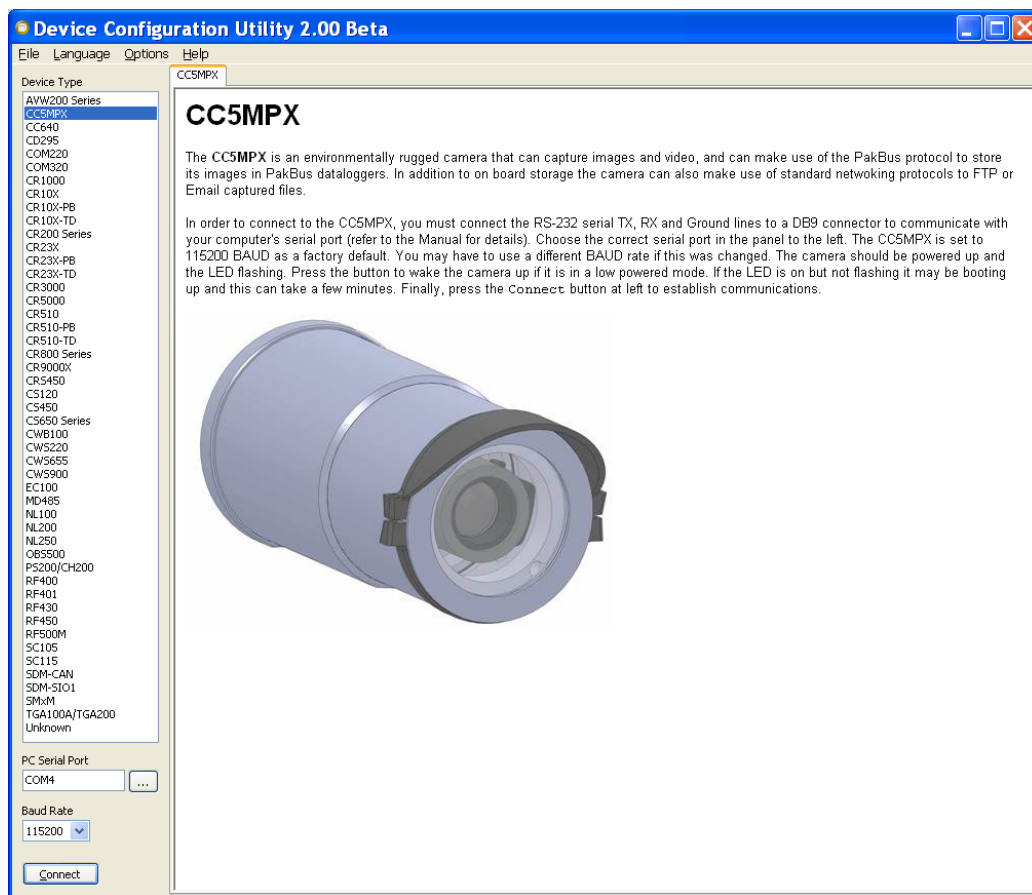

FIGURE 8-45. CC5MPX Device Configuration Option
- Select the CC5MPX from the device list (see FIGURE 8-45) and connect to the camera.